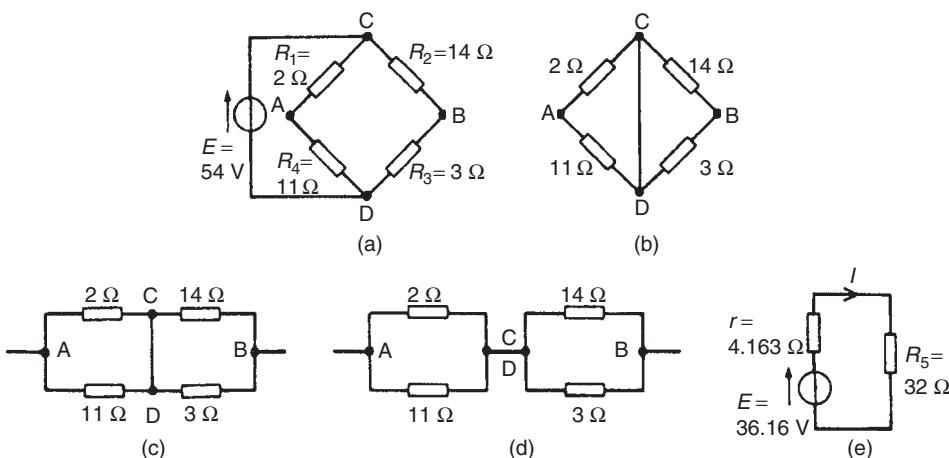

Figure 13.48
- (i) The  $32\Omega$  resistor is removed from the circuit as shown in Fig. 13.48(a)
- (iii) Replacing the source of e.m.f. with a short-circuit (i.e. zero internal resistance) gives the circuit shown in Fig. 13.48(b). The circuit is redrawn and simplified as shown in Fig. 13.48(c) and (d), from which the resistance between terminals A and B,
- (iv) The equivalent Thévenin's circuit is shown in Fig. 13.48(e), from which, current